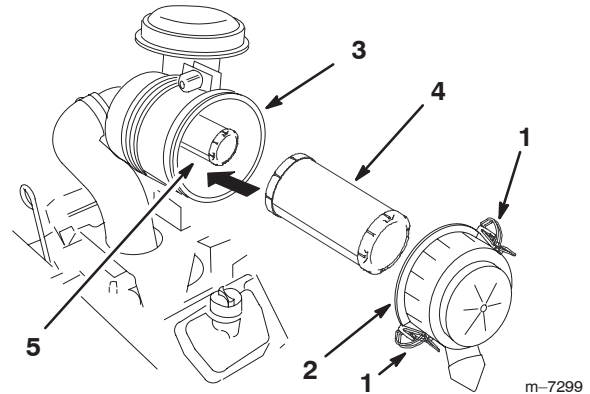

Figure 35
3. Release the latches on the air cleaner and pull the air cleaner cover off of the air cleaner body (Fig. 35).
5. Gently slide the primary filter out of the air cleaner body (Fig. 35). Avoid knocking the filter into the side of the body.
2. If the safety filter is being replaced, carefully slide it into the filter body (Fig. 35).
3. Carefully slide the primary filter over the safety filter (Fig. 35). Ensure that it is fully seated by pushing on the outer rim of the filter while installing it.
4. Install the air cleaner cover with the side indicated as **UP** facing up and secure the latches (Fig. 35).